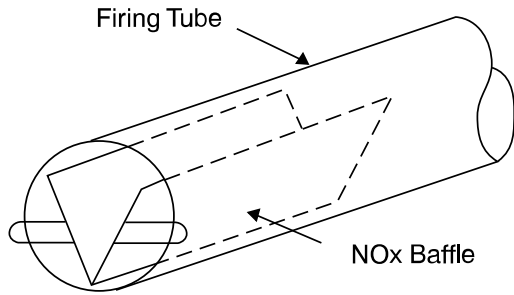

Fig. 1 – Low NOx Baffle Location
Failure to follow this caution may result in damage to unit components. Before converting a unit to propane gas, remove the burner assembly and inspect the heat exchanger tubes. If there are V-shaped NOx baffles installed in the firing tubes, (see Fig. 1). **THEY MUST BE REMOVED PRIOR TO CONVERTING THIS UNIT TO PROPANE GAS.**
10. Inspect the inlet of the heat exchanger tubes for presence of V-shaped NOx baffles (see Fig. 1). If baffles are present, they must be removed prior to converting unit for propane gas. Using needle-nose pliers, remove NOx baffles, squeeze sides of the baffle, if necessary, to remove from the heat exchanger tubes.